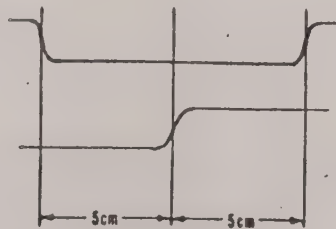

Figure 5-7: Clock Extractor Phase Adjustment
- d. Adjust the position controls and the TIME/CM vernier of the Oscilloscope to obtain the pattern of Figure 5-7, with the upper trace symmetrically positioned.